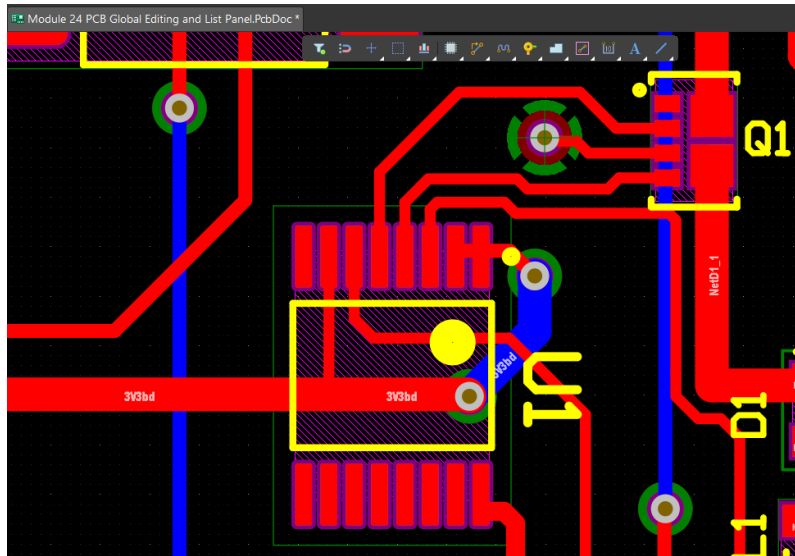

Figure 1. `WCToppingGlobalEditing.PcbDoc` near component U1
- Open the `Module 24 PCB Global Editing and List Panel.PcbDoc` document and zoom in on U1 as shown in Figure 1 below.